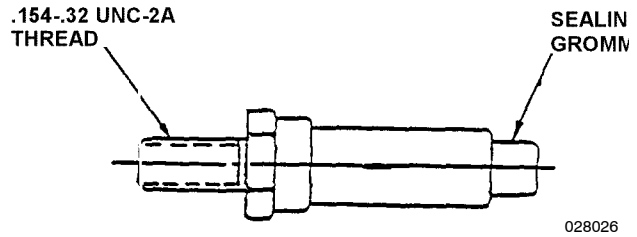
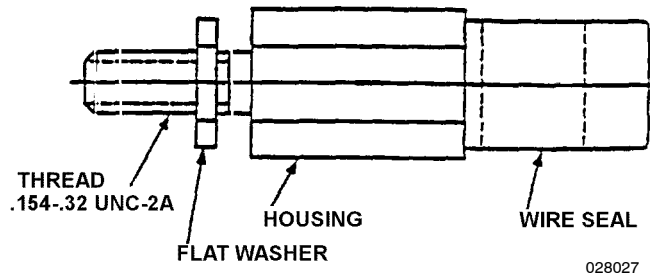

Figure 26. Series I Grounding Stud
Figure 27. Series II Grounding Stud
Grounding studs (Figures 26 and 27) are mounted into threaded screw holes on equipment or aircraft grounding surfaces. The studs are mounted as follows:
a. Screw the grounding stud in the threaded grounding hole using the hex wrench specified in Table 4. The Series I and II grounding studs are not interchangeable. Be sure the Series II stud has the flat washer on the stud shaft (Figure 27).
b. Firmly tighten the stud to the grounding surface with the wrench. Apply the wrench to the Series I terminal stud nut (Figure 26) or the Series II housing (Figure 27). Do not tighten the stud beyond 25 inch pounds.